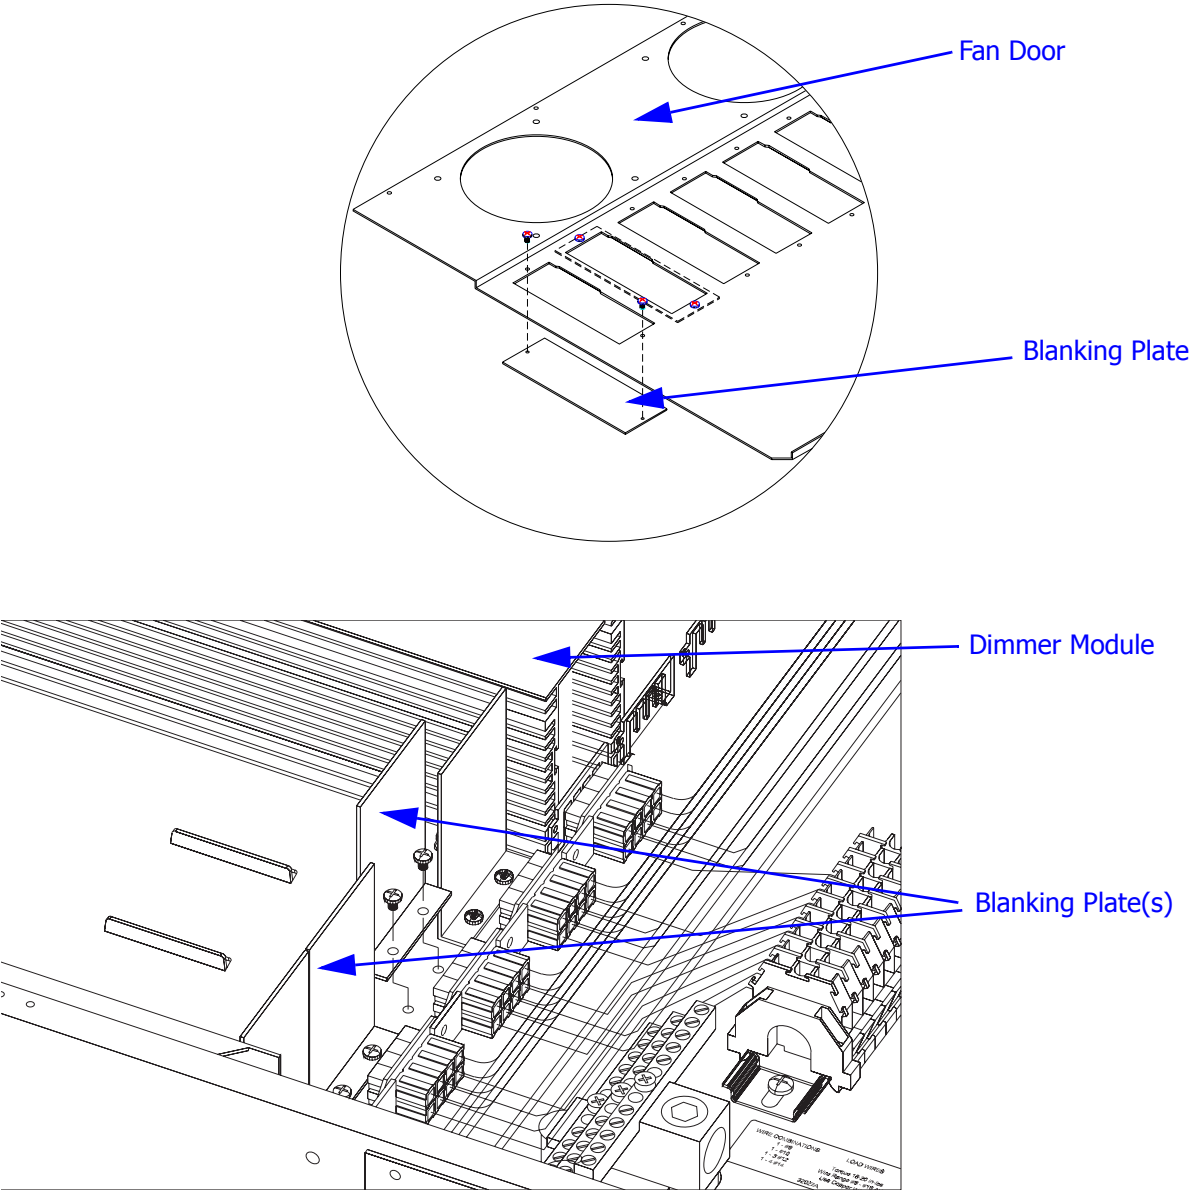

Figure 27 - Blanking Plate Locations
In some instances the dimmer modules are shipped separately from the cabinet. When this occurs, the blanking plates (two per module slot) must be removed prior to installing the dimmer modules. These plates are installed to maintain proper airflow. See Figure 27 for the locations of the blanking plates.
- 1 Remove the appropriate blanking plate(s) from the cabinet. There are two plates per module location. One is located on the fan door. The second is screwed down to the back pan. Start from the top and work your way down (see Figure 27)